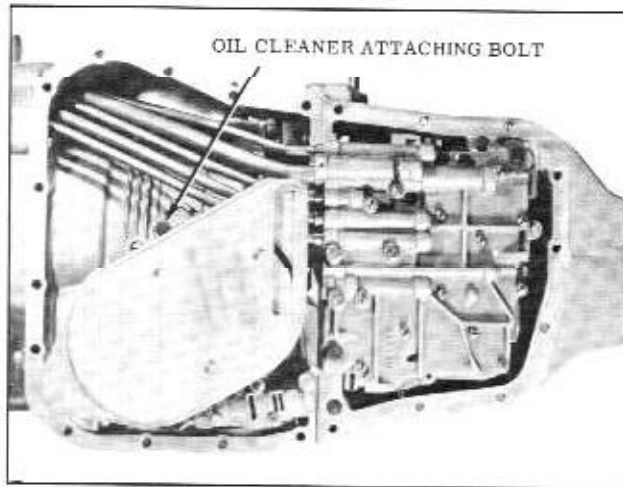

Figure 3-25 Oil Cleaner
4. Remove oil cleaner attaching bolt and oil cleaner. (Fig. 3-25)